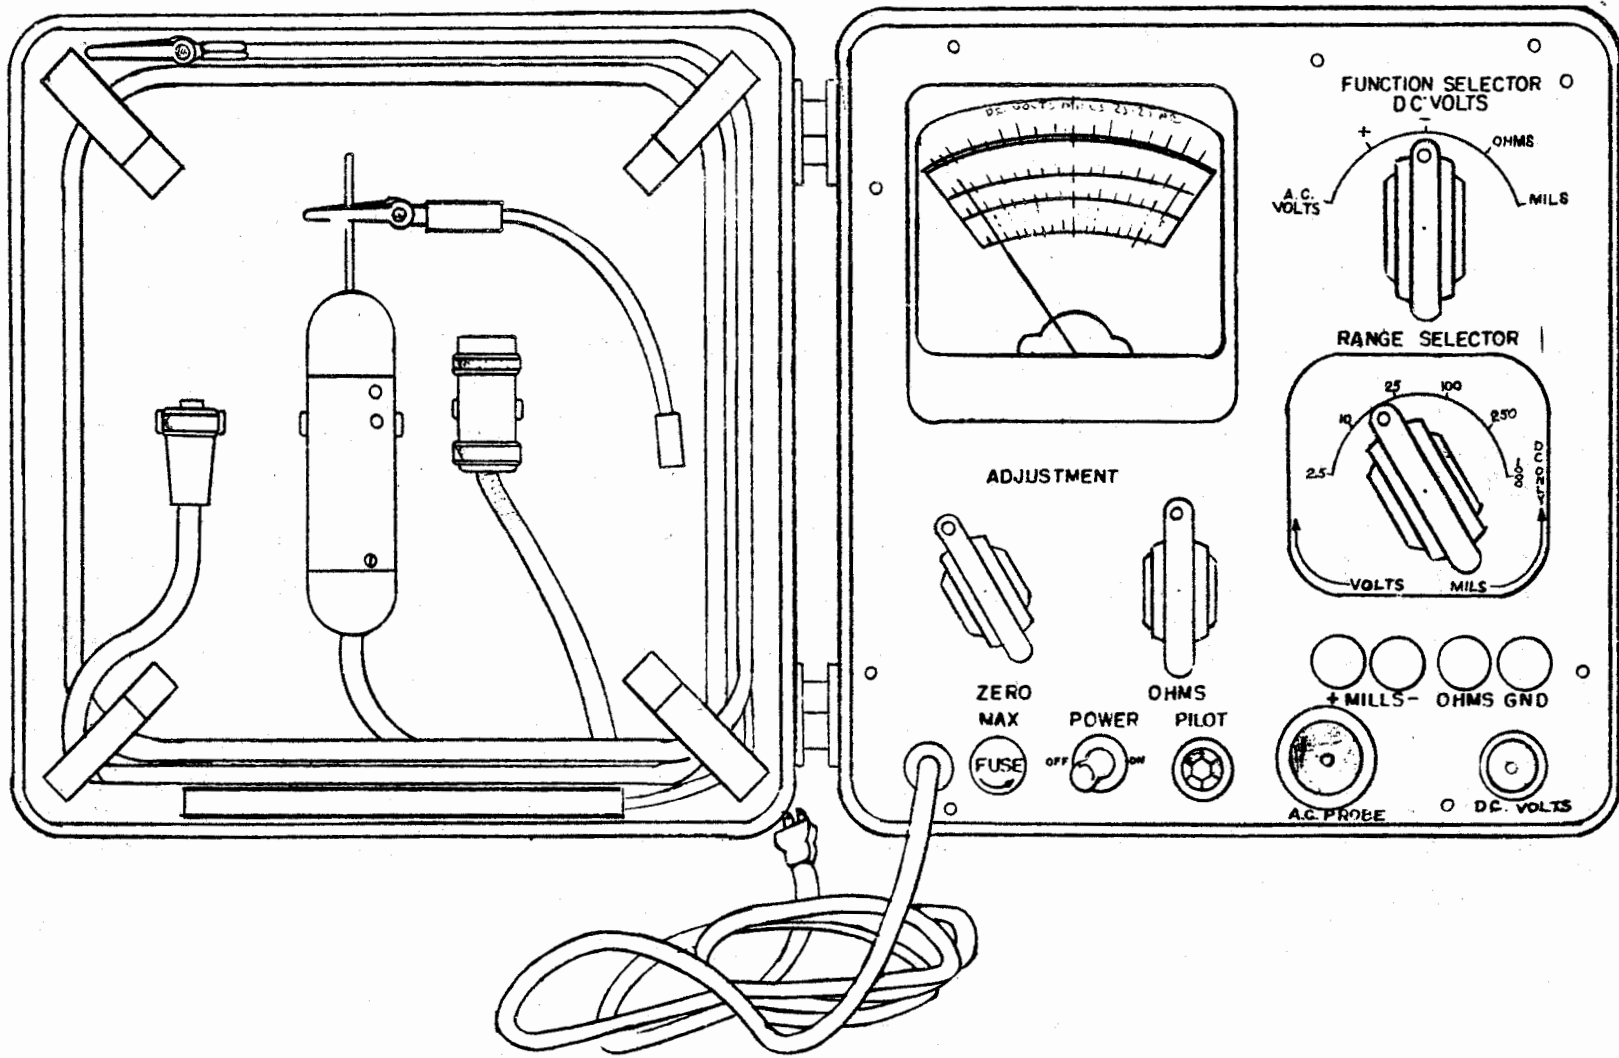

Figure 4-13. Electronic Multimeter (ME-25/U Illustrated)
a. GENERAL DESCRIPTION. - The electronic multimeter is similar to the type TS-352/U in application. In most cases they are designed to measure AC and DC volts and resistance. It has the advantage of greater accuracy and sensitivity over a wider frequency range than is possible with the TS-352/U type multimeters. Another advantage is that it presents a high impedance input, thus requiring negligible power from the circuit being measured. The instrument may be operated from 115 volts, AC, or in some cases, it may have an internal battery pack for portable operations. Figure 4-13 shows the ME-25/U.